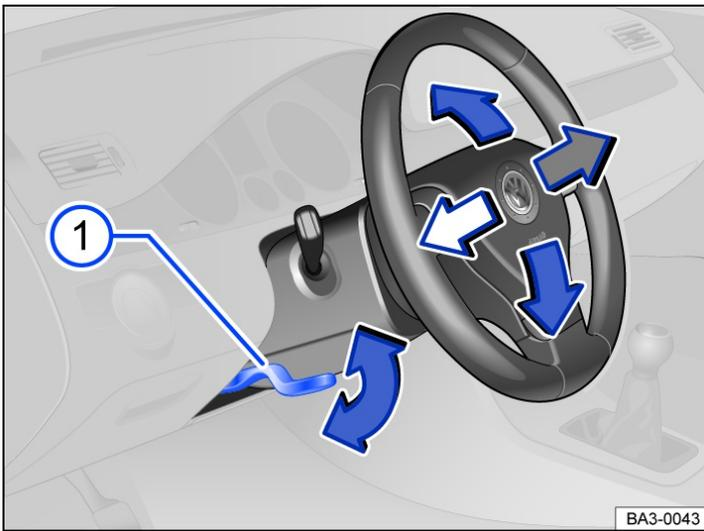

Fig. 1 Below the steering wheel in the steering column trim: lever for mechanical adjustment of the steering wheel position.
- Push down the lever → Fig. 1 (1).
- After adjusting the steering column, always move the lever → Fig. 1 (1) up so that it engages securely. This prevents the steering column from moving spontaneously while the vehicle is in motion.